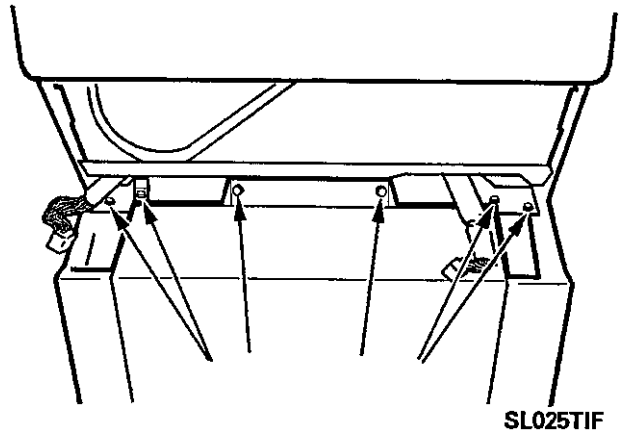

Figure 5-10
4. Remove the six screws across the lock support (Figure 5-10).